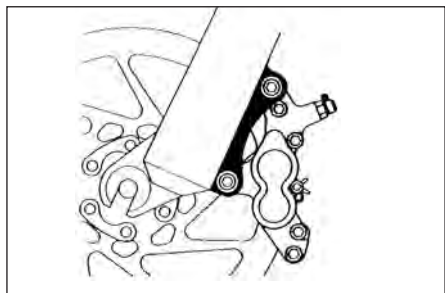
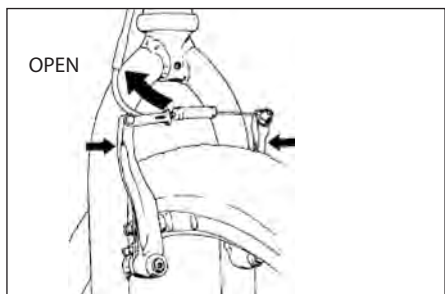

Figure 11.
Figure 12.
- (1) If your bike has rim brakes, disengage the brake's quick-release mechanism to increase the clearance between the tire and the brake pads (See Section 4.C fig. 11 through 15).
- (2) If your bike has rim brakes, disengage the brake's quick-release mechanism to increase the clearance between the wheel rim and the brake pads (see Section 4.C, figs. 11 through 15).
- (3) On a derailleur gear system, pull the derailleur body back with your right hand.
- 3. Some bicycle brakes, such as disc brakes (fig. 11) And linear-pull brakes (fig.12), Are extremely powerful.** Take extra care in becoming familiar with these brakes and exercise particular care when using them.
Most brakes have some form of quick-release mechanism to allow the brake pads to clear the tire when a wheel is removed or reinstalled. When the brake quick release is in the open position, the brakes are inoperative. Ask your dealer to make sure that you understand the way the brake quick release works on your bike (see figs. 11, 12, 13, 14 & 15) and check each time to make sure both brakes work correctly before you get on the bike.